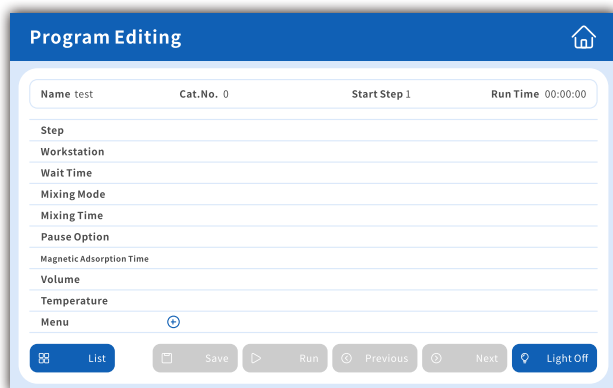

Figure 5
02.Click “Add” to enter the program editing interface (Refer to Figure 5).